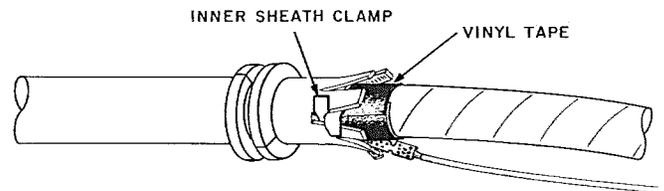

Fig. 16—Inner Sheath Clamps Positioned
3.13 Slip the inner sheath clamp under the tabs with the ears extending from the slot from which the half tab was removed (Fig. 16). If a small cable is to be installed in the splice case, an inner cable sheath clamp of the proper size will be furnished with the adapter assembly. The table for adapter sizes is shown in Fig. 5.